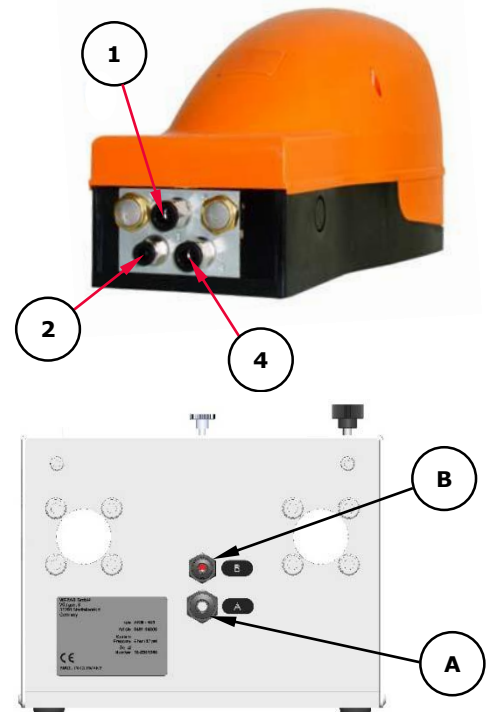

Figure 6.1.1
Connect hose stem (1) of the pneumatic foot pedal to the compressed air supply. See Figure 6.1.1.